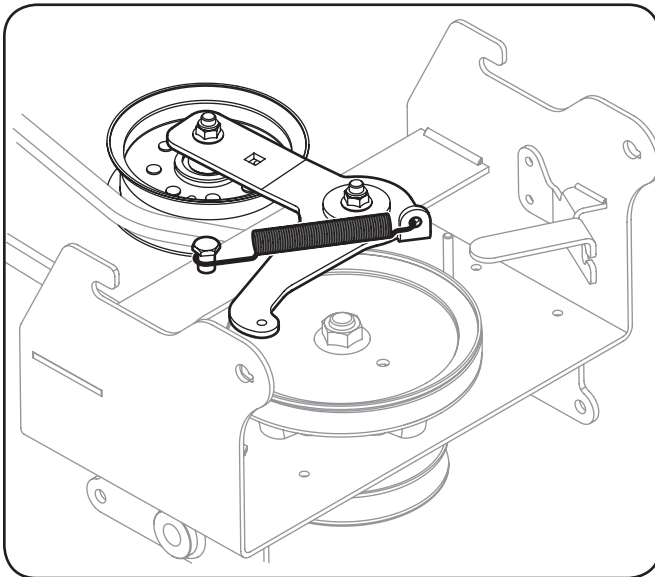

Figure 3-5
3. If your tractor is equipped with a **Manual PTO**, attach the 5-inch extension spring to the carriage idler bracket as show in Figure 3-5.